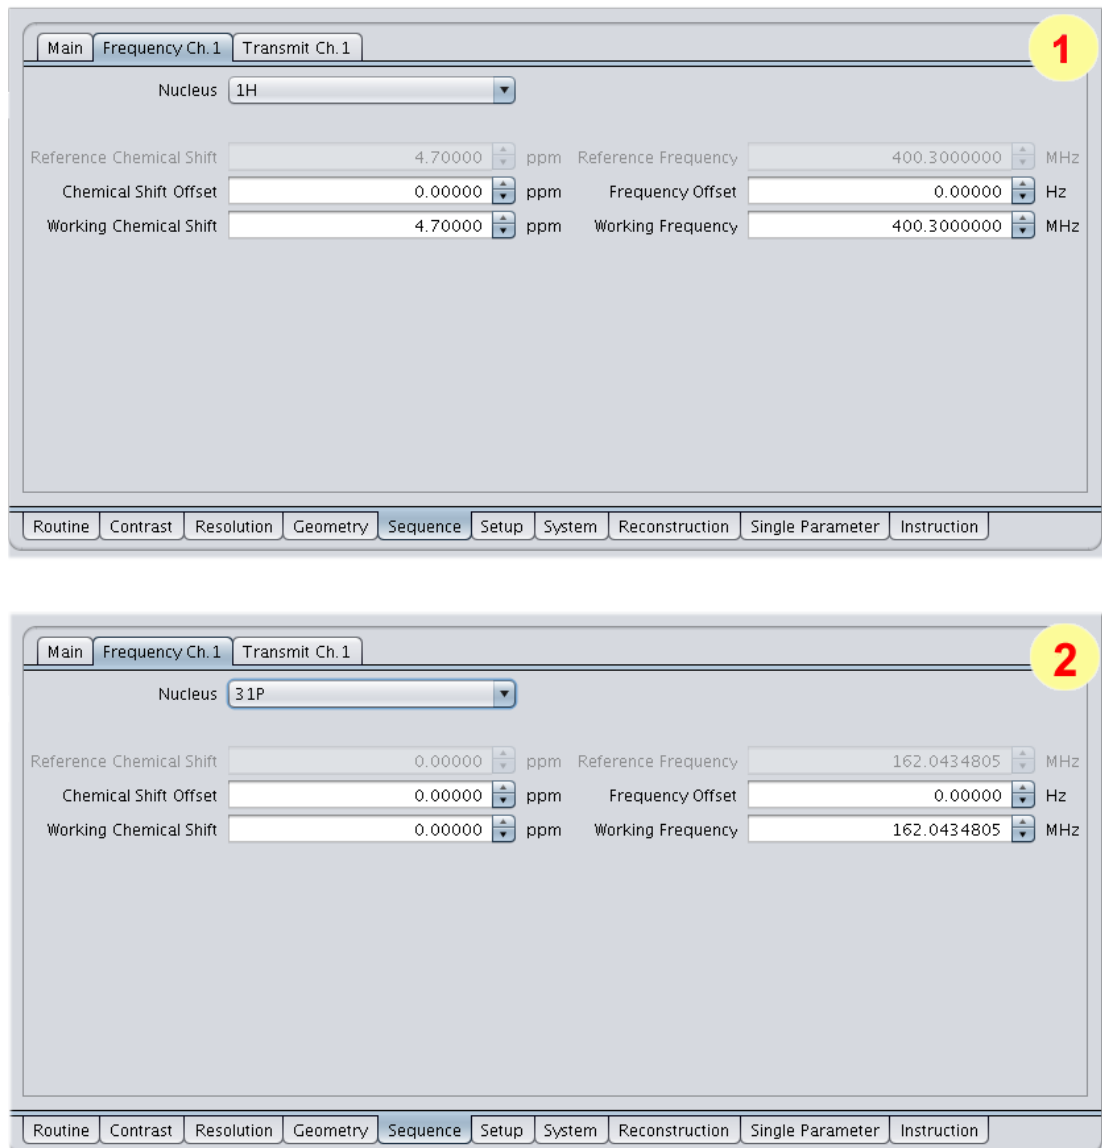

Figure 2.60: Sequence Cards of the Parameter Editor: ^1H on the top (1), ^{31}P on the bottom (2)
An example of Sequence Cards of the Parameter Editor is shown in [Figure 2.60 \[p. 506\]](#): ^1H is selected on the top (1) with the working chemical shift set to 4.7 ppm (water). ^{31}P is selected on the bottom (2). The working frequencies correspond to a 9.4 Tesla system.